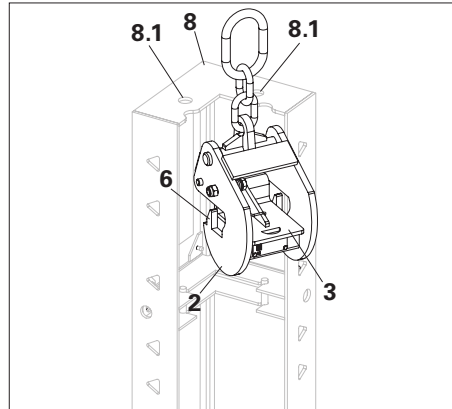

Fig. 5
1. Position the housing (2) into the holes (8.1) provided on the Internal Corner HSA (8) by lifting up the spring-loaded lock plate (3). (Fig. 5)
2. Once the locking hook (6) of the housing (2) is locked properly into the holes (8.1), the spring-loaded lock plate (3) secures the Crane Hook HSA on the Internal Corner HSA (8). (Fig. 5)